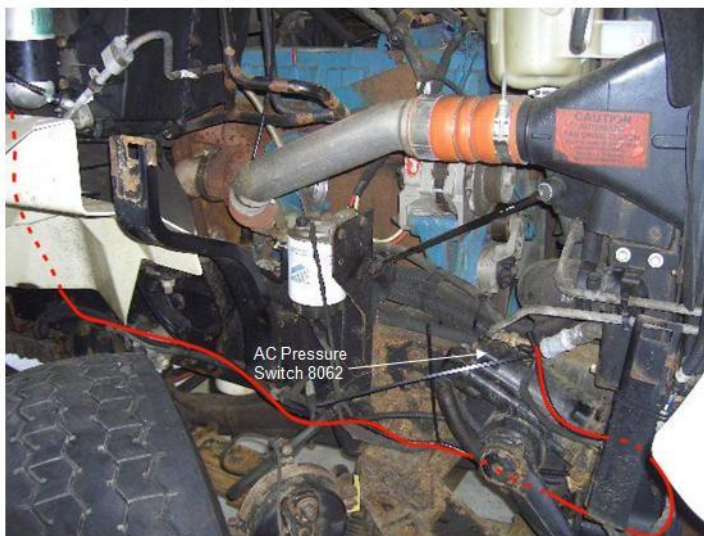

Figure 19
21. Route the AC pressure sensor lead and connector 8602 from behind the air handling box down along the bulkhead and forward with the chassis wiring harness above the frame rail until it will lead up to the pressure sensor as shown in Figure 19. Make sure the pressure sensor lead does not come in contact with or close to the turbocharger or exhaust system. Connect 8602 to the pressure sensor and cut the terminal off the old wiring.